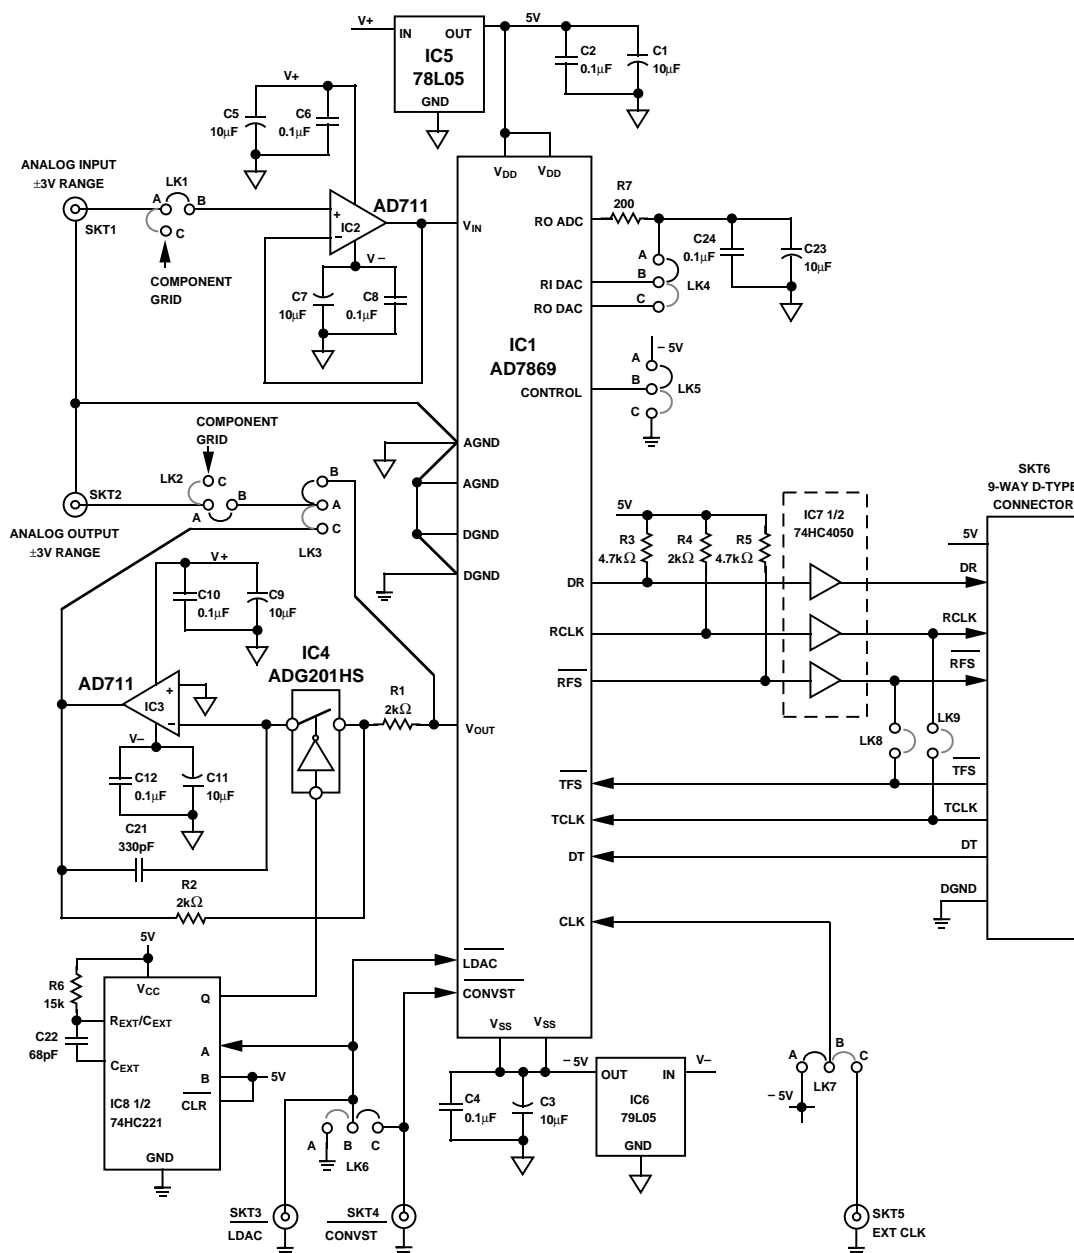
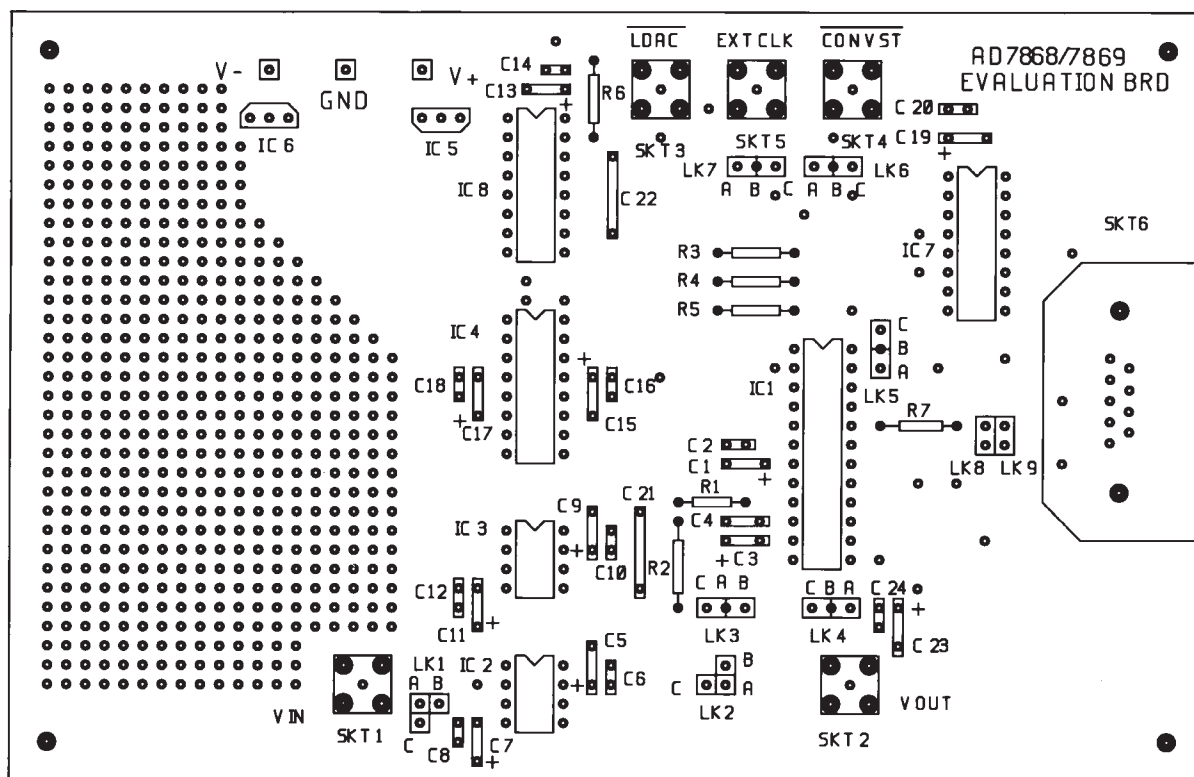

Figure 19. Input/Output Circuit Based on the AD7869
Figure 21. Silkscreen for the Circuit Diagram of Figure 19
Figure 19 shows an analog I/O board based on the AD7869. The corresponding printed circuit (PC) board layout and silkscreen are shown in Figures 21 to 23.
The PC board requires two analog power supplies and one 5 V digital supply. Connections to the analog supply are made directly to the PC board as shown on the silkscreen in Figure 21. The connections are labeled V+ and V-, and the range for both of these supplies is 12 V to 15 V. Connections to the 5 V digital supply are made through the D-type connector SKT6. The  $\pm 5$  V analog supply required by the AD7869 is generated from two voltage regulators on the V+ and V- supplies.